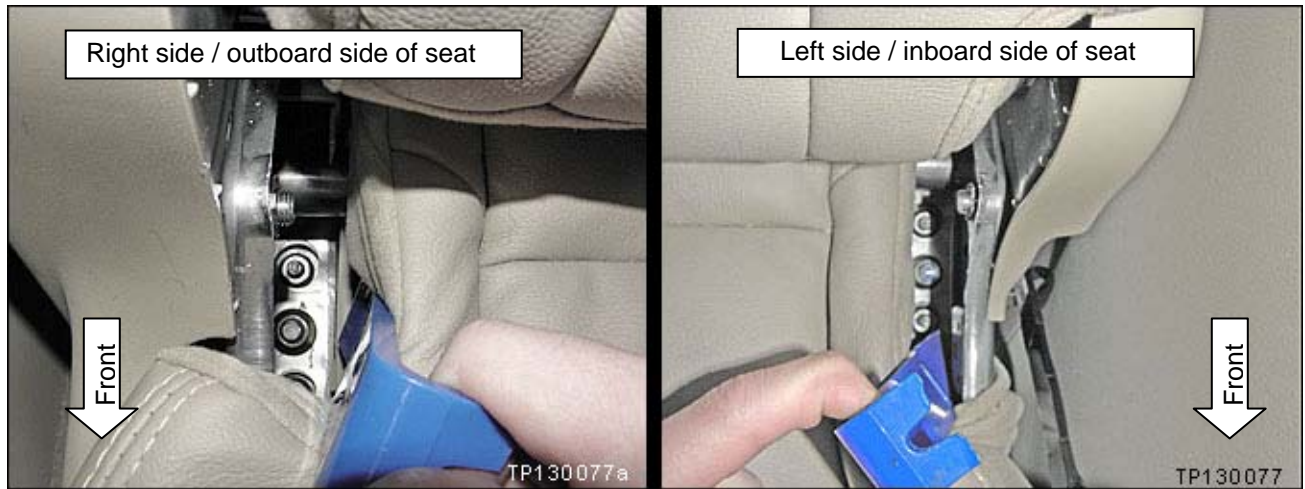

Figure 8
7. Remove nuts from the rear of the seat frame as follows (see Figures 8 and 9):